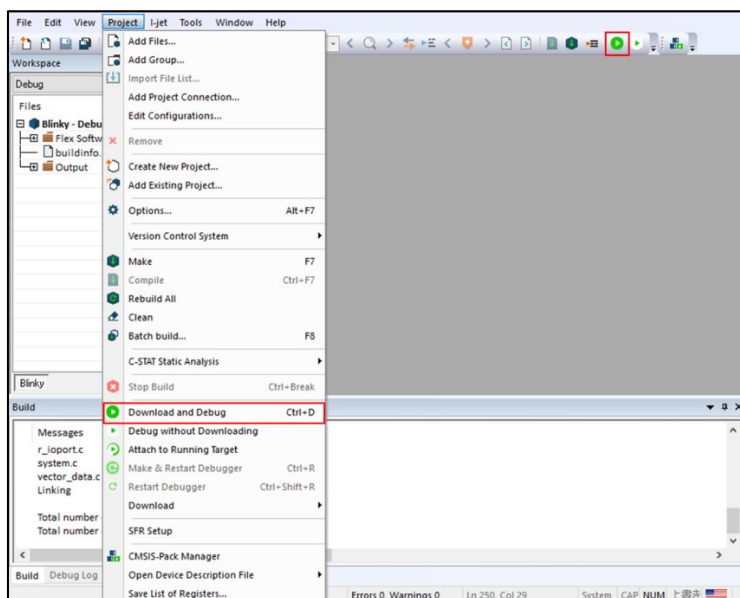

Figure 124. Download and Debug Button
3. Download of the primary project with procedure in Section 5.3.4 *Download & Debug the Project* as shown in Figure 124.